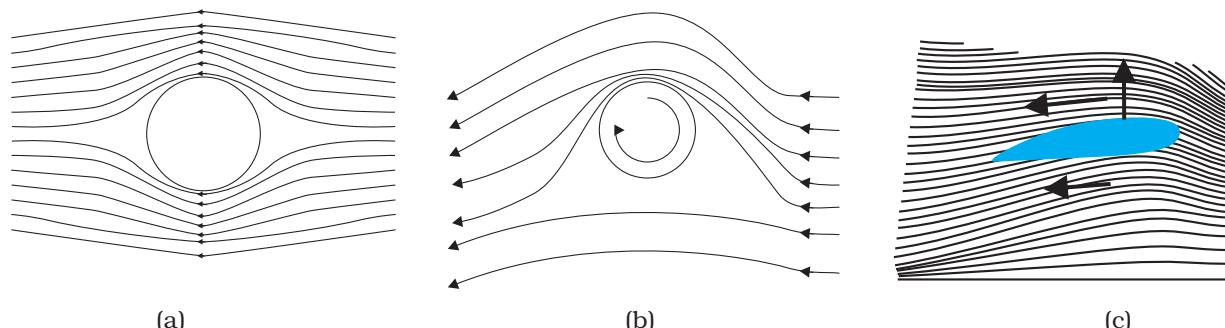

Fig 10.13 (a) Fluid streaming past a static sphere. (b) Streamlines for a fluid around a sphere spinning clockwise. (c) Air flowing past an aerofoil.
- (i) **Ball moving without spin:** Fig. 10.13(a) shows the streamlines around a non-spinning ball moving relative to a fluid. From the symmetry of streamlines it is clear that the velocity of fluid (air) above and below the ball at corresponding points is the same resulting in zero pressure difference. The air therefore, exerts no upward or downward force on the ball.
- (ii) **Ball moving with spin:** A ball which is spinning drags air along with it. If the surface is rough more air will be dragged. Fig 10.13(b) shows the streamlines of air for a ball which is moving and spinning at the same time. The ball is moving forward and relative to it the air is moving backwards. Therefore, the velocity of air above the ball relative to the ball is larger and below it is smaller (see Section 10.3). The stream lines, thus, get crowded above and rarified below.
Aerofoil or lift on aircraft wing: Figure 10.13 (c) shows an aerofoil, which is a solid piece shaped to provide an upward dynamic lift when it moves horizontally through air. The cross-section of the wings of an aeroplane looks somewhat like the aerofoil shown in Fig. 10.13 (c) with streamlines around it. When the aerofoil moves against the wind, the orientation of the wing relative to flow direction causes the streamlines to crowd together above the wing more than those below it. The flow speed on top is higher than that below it. There is an upward force resulting in a dynamic lift of the wings and this balances the weight of the plane. The following example illustrates this.